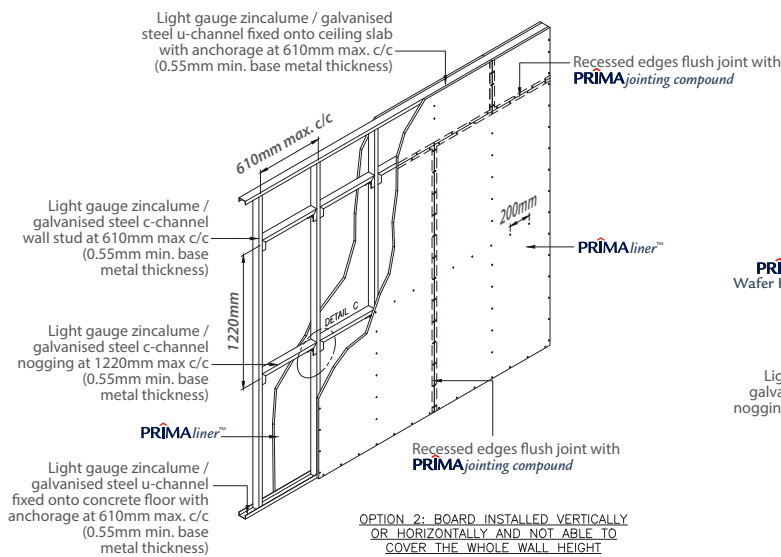

Figure 3b: Frame & Board Installation Layout
- b. If the full PRIMAliner™ board cannot cover the wall height, then another board need to be cut to the required dimension and install at top in staggered pattern. Refer to Figure 3b for frame & board installation layout.